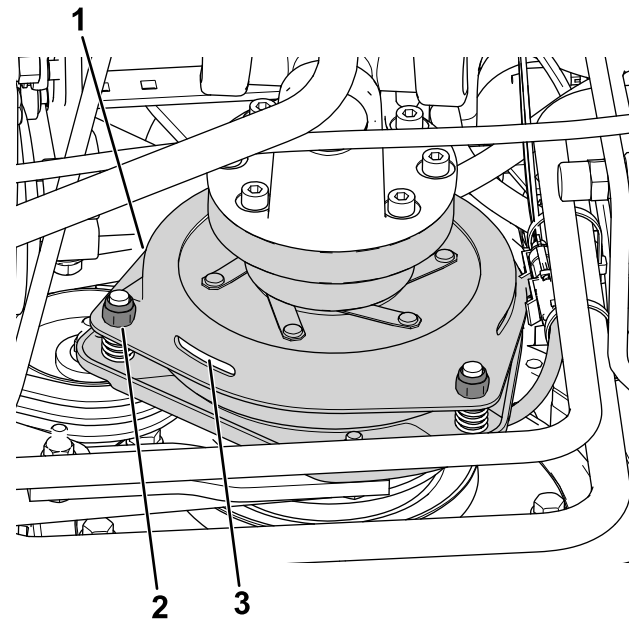

Figure 78
3. Adjust the air gap so that a 0.3 mm (0.012 inch) feeler gauge slides in between the clutch lining and friction plate with light pressure (Figure 78).
Note: You can decrease the gap by turning the adjusting nuts clockwise (Figure 78). The maximum service gap is 0.6 mm (0.024 inch). Adjust all 3 air gaps to 0.4 mm (0.012 inches).